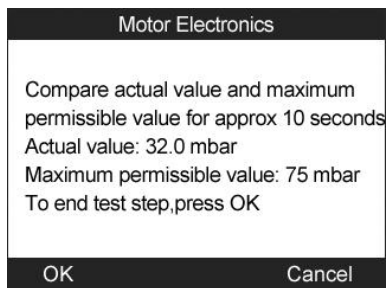

Figure 11.42
- d) Check the exhaust backpressure with engine running at 2000 rpm. The tool will read off the actual backpressure value and compare with the upper limit. (Figure 11.42). Select **OK** to continue the test or **Cancel** to return to previous menu.